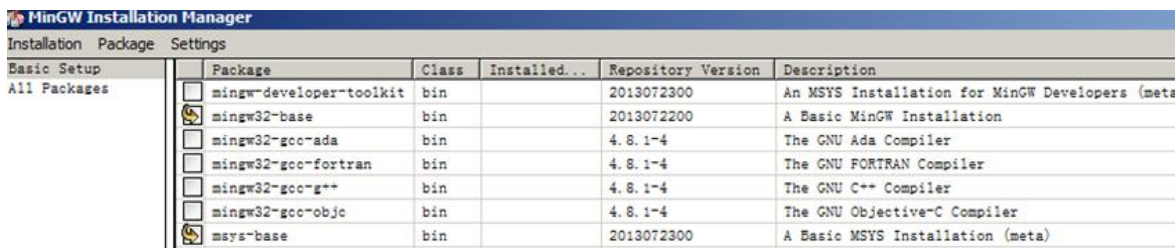

Figure-17 MinGW Installer
3. Select the mingw32-base and the msys-base under the Basic Setup as shown in Figure-17 MinGW Installer.